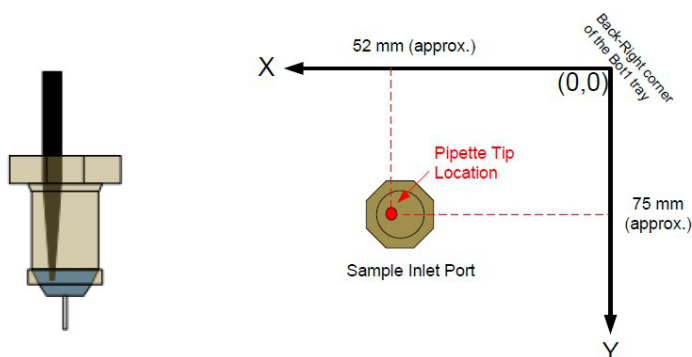

Figure 8-5: Diagram of correct pipette tip alignment with the sample Inlet Port.
- 2 Execute the batch. During the single flush, examine the pipette tip location in the sample port, and compare it to Figure 8-5. If required, go to **System Configuration > Bot1 Configuration** and adjust the sample Inlet Port location. A more positive x- or y-value will shift the pipette tip left/down relative to the port. A more positive z-value will move the tip lower into the port. The pipette tip should be as low in the port as possible without touching the port.